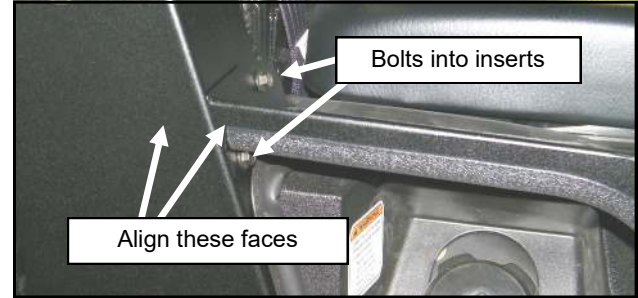

Fig. 12.1a Fuel filler cover
12.1 Per figures 12.1a and 12.1b, place the fuel filler cover panel onto the right side B-pillar and insert (2) 1/4-20 bolts into the threaded inserts. Align the outer flange of the fuel filler cover to the side of the B-pillar and tighten the bolts.